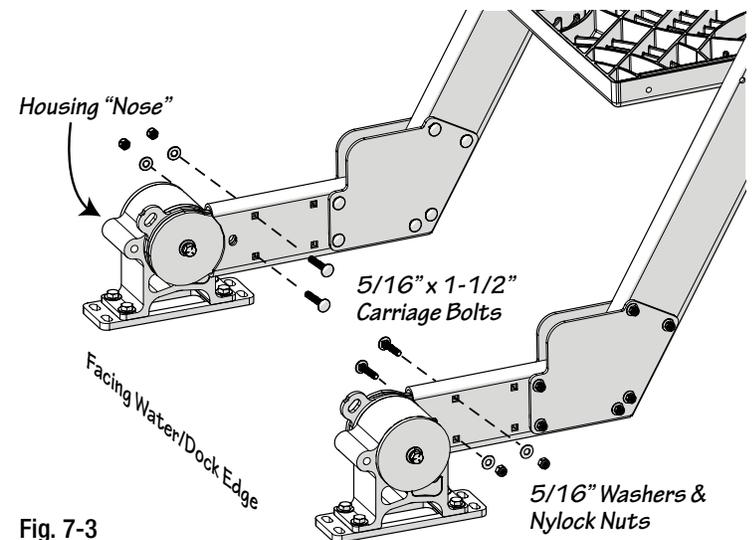

Fig. 7-3
- Insert 2 (5/16 x 1-1/2") carriage bolts from the inside of the ladder frame through the upper frame & base/housing plate as shown in Fig.7-3.